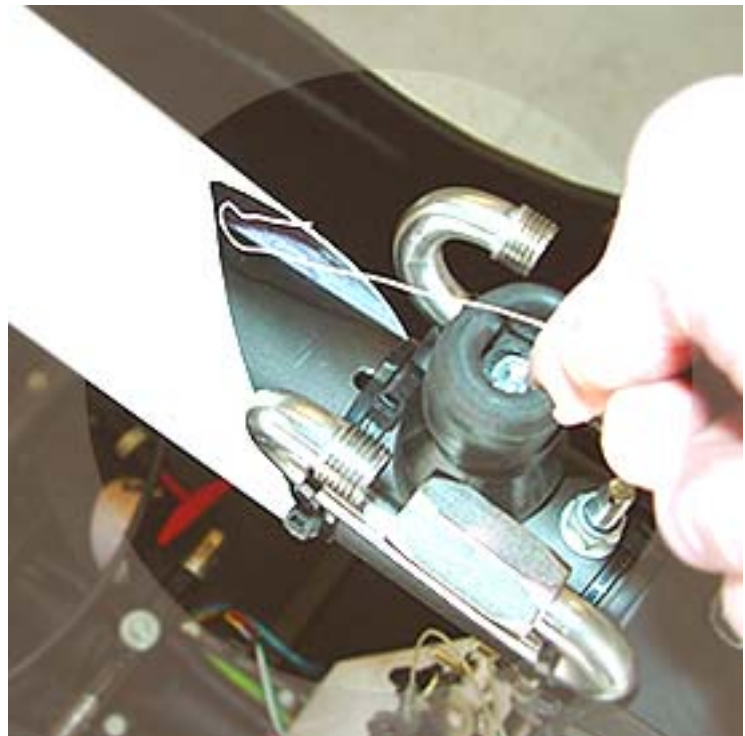

Figure 2-18
- 2.10 Using some rope or safety wire, pass it through the opening in the fairing (Figure 2-18).